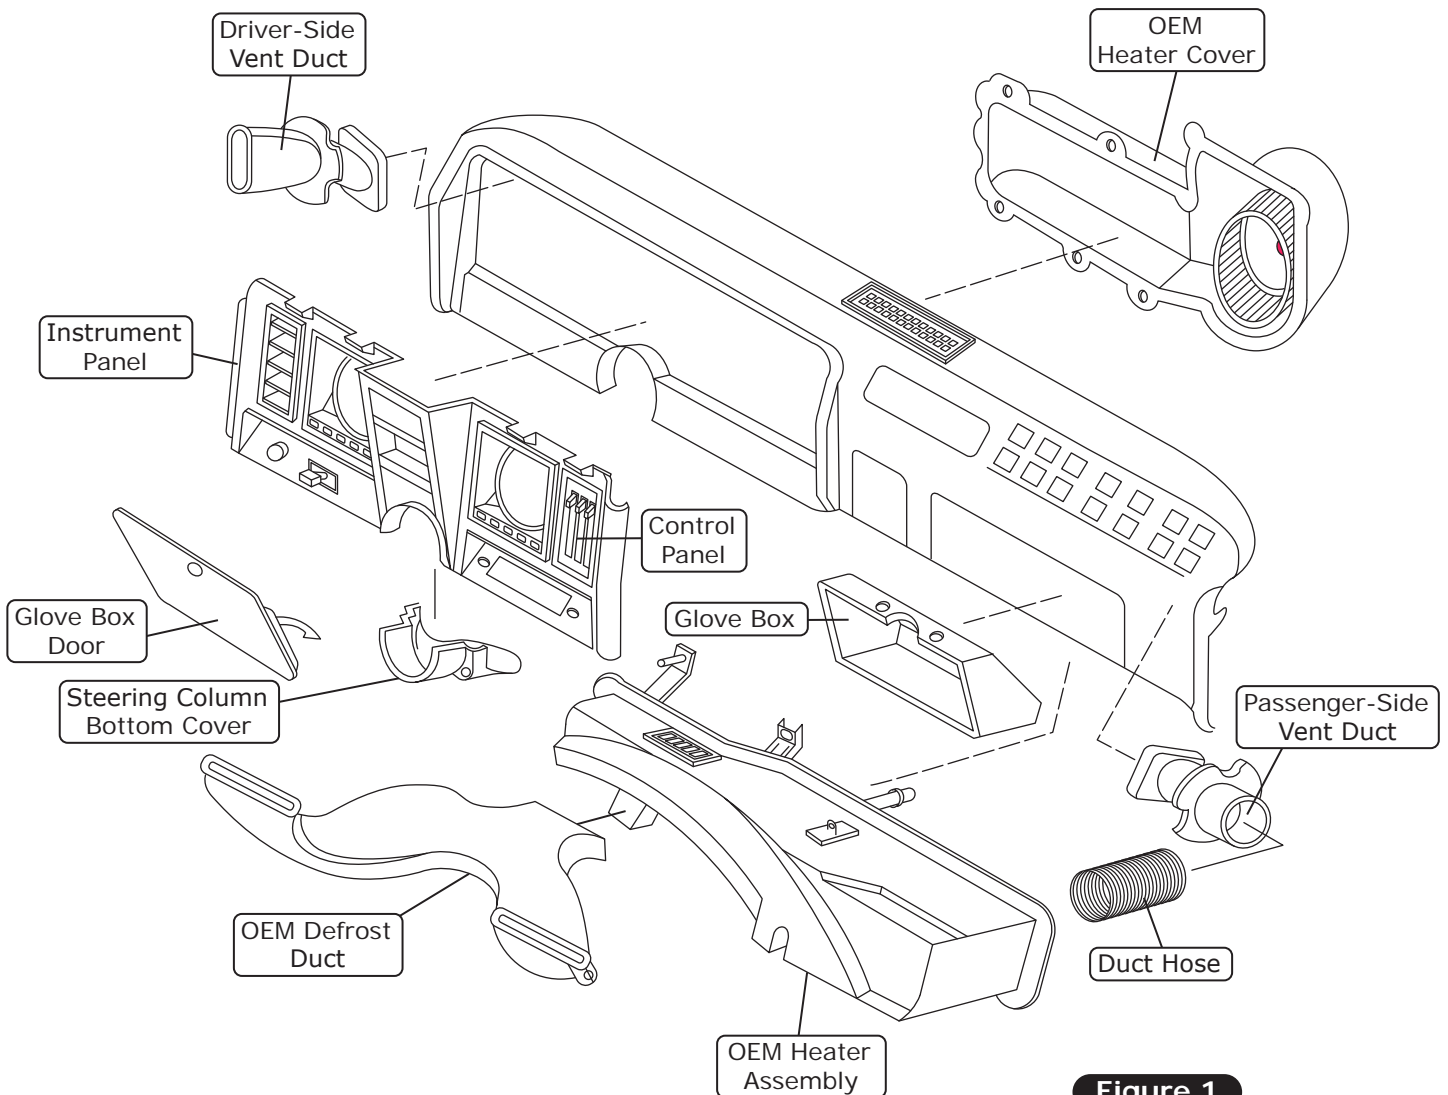

Figure 1
6. Remove the glove box door (retain) (See Figure 1, below).
7. Remove the glove box (discard) (See Figure 1, below).
8. Remove the instrument panel (retain) (See Figure 1, below).
1. Locate the (2) defrost duct assemblies (See Photo 1, below)
2. Install the defrost ducts under the dash (See Figure 1, below). Align each defrost duct with the defrost opening in the dash, and hold it in place. Using the bracket as a template, drill a 7/64" hole for each duct as shown below. Secure each defrost duct using a #10 x 1/2" sheet metal screw (See Figure 1, below).